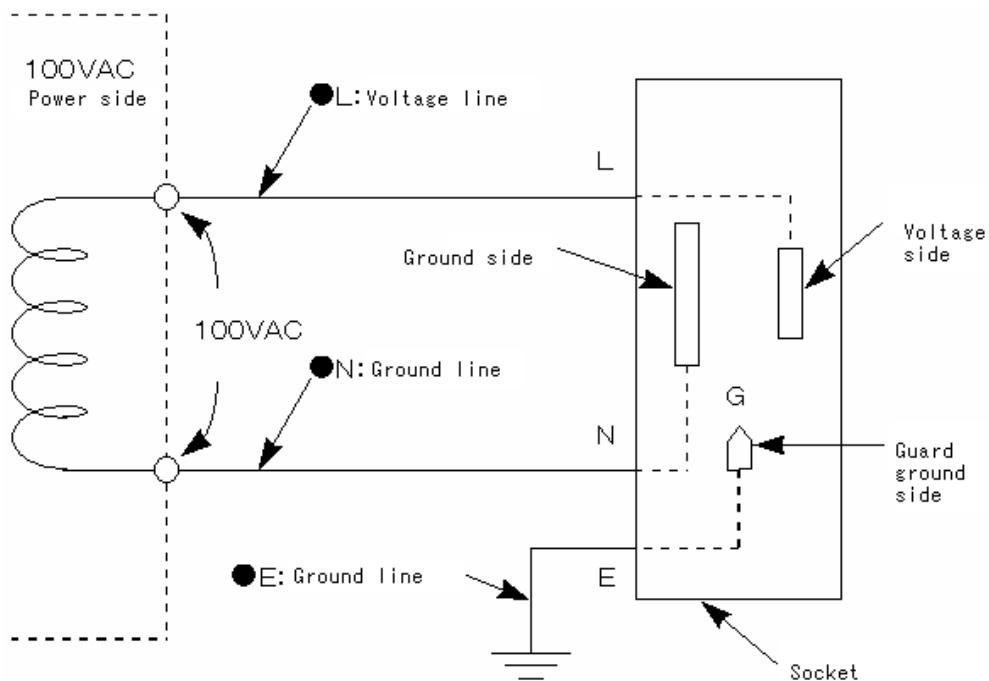

Figure 2.3-1 Three-prong power plug and outlet
Grounded 3-prong power outlets are configured as shown in figure 2.3-1 with a voltage pole or *live line* (L), a ground or *neutral line* (N), and a protective ground line or *earth* (E). The plug on the 3-prong power cord that comes with the instrument is designed to match the polarity of a 3-prong (or grounded 2-prong) outlet when inserted.